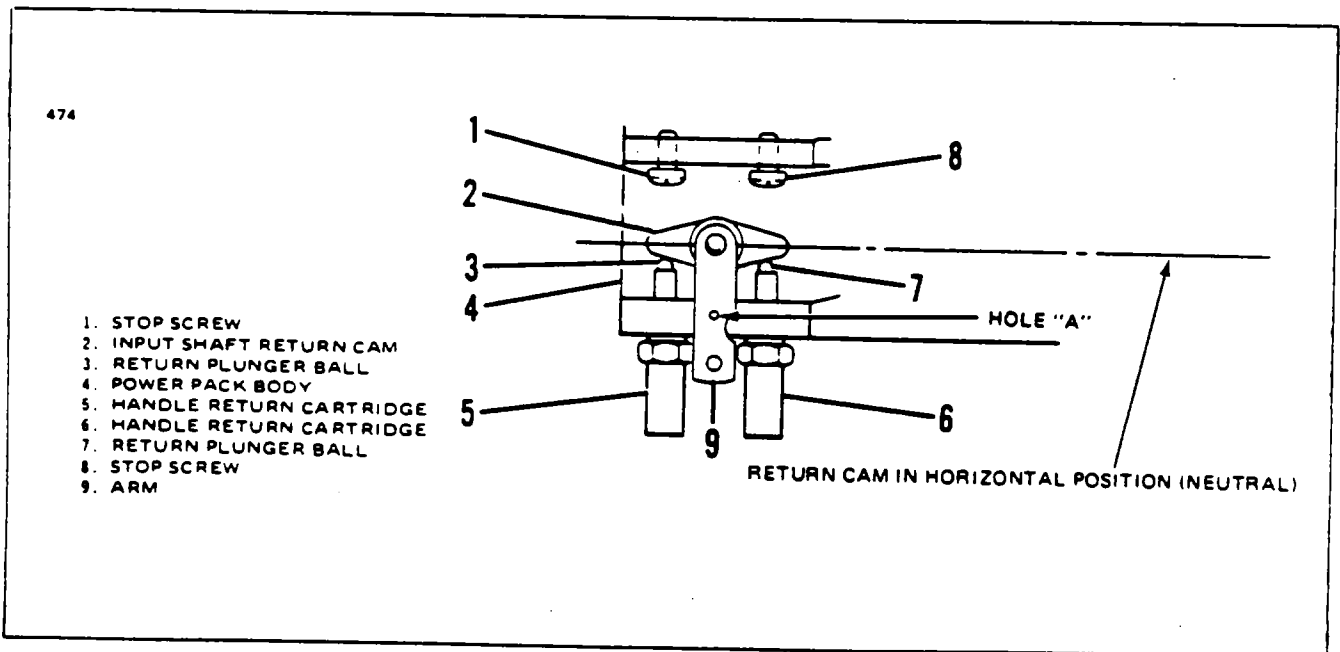

Figure 29-11. Handle Release Adjustment
ADJUSTMENT OF POWER PACK HANDLE-RELEASE MECHANISM. (Refer to Figure 29-11.)
4. Hold the input shaft return cam in the horizontal (neutral) position by inserting a .125 dia. drill or punch through hole in the arm and into rigging hole in body. Rigging hole is noted as hole "A" in Figure 29-11. Adjust handle return cartridges in such a manner that their return plunger balls touch the surface of the input shaft return cam slightly.
ADJUSTMENT OF GEAR SELECTOR HANDLE MECHANISM. (Refer to Figure 29-11.)
REMOVE DRILL FROM RIGGING HOLE (Hole "A," Figure 29-11.)